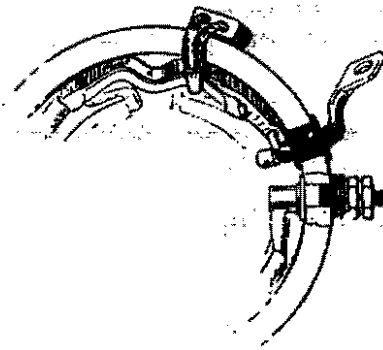

Fig. 58 - Brush and terminal arrangement
**Insulated brushes (field coil).** Place the yoke assembly on its end, with the brush and terminal arrangement uppermost, Fig. 58. Cut the worn brush flexible lead as near as possible to the field coil conductor. Carefully prise the brush flexible jointing part of the conductors away from the yoke, to provide sufficient space for soldering new brushes in position. Separate the ends of the two brush flexibles and position one each side of the conductor. Pinch the ends of the flexibles and conductor together with long nosed pliers and bend the brush and flexibles firmly down over the edge and outside of the yoke. (Fig. 58).
The build-up of the insulators and washers associated with the yoke terminal. (Fig. 58).